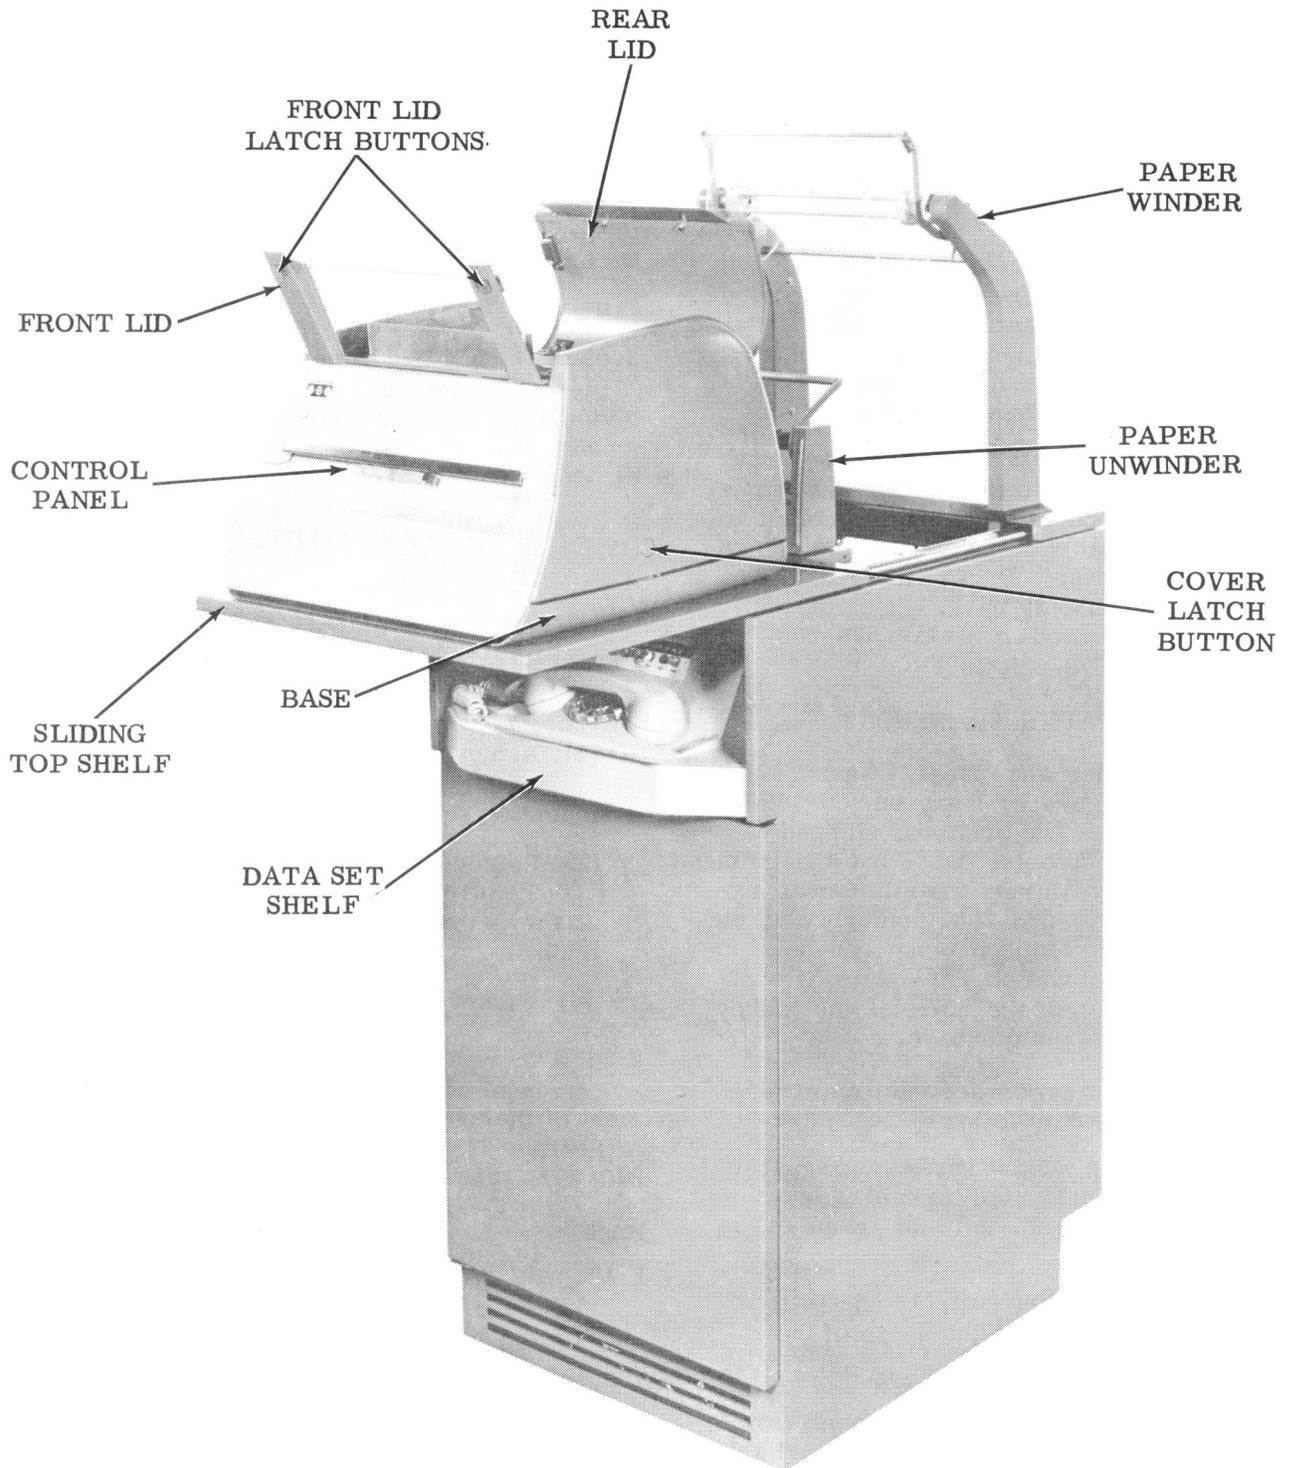

Figure 2 - DATASPEED Printer (Receive-Only) With Data Set Shelf for 202C Data Set or 804A Data Auxiliary Set, Top Shelf Extended, and Cover Lids Raised
winder. Open the front and rear lids of the cover by pressing inward on the latch buttons on both ends of the front lid. The front lid will spring upward, releasing the rear lid, so that both lids may be opened (Figure 2). Unlatch the idler roller assembly, raise the paper tensioner idler rollers, and place the paper pressure roller arm in its OPEN position. The paper can then be removed from the transport by pulling it up out of the cover lid.
2.21 If the printer has a shelf for a 202C data set or 804A data auxiliary set (Figure 2), the shelf can be removed as follows: